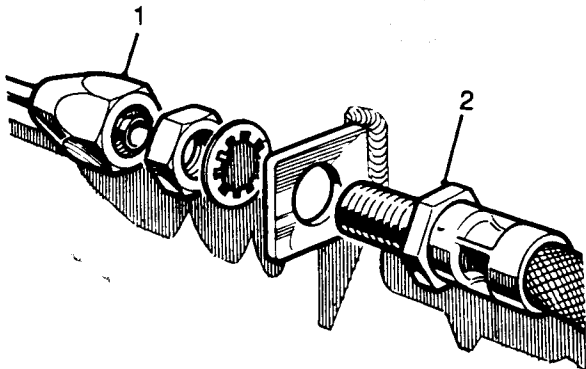

Fig J1.6
- (5) Refer to Fig J1.6. Disconnect the rear brake pipe (1) at the connection with the flexible hose.
- (6) Withdraw the flexible hose (2) from the chassis bracket.
- (7) Depress the brake pedal and wedge in that condition to minimise brake fluid loss.